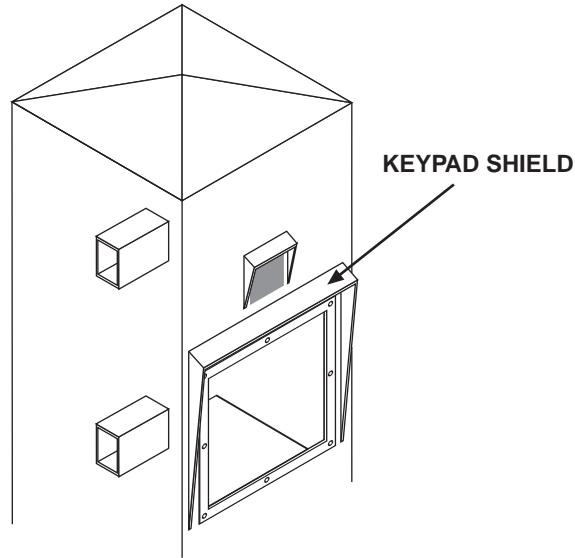
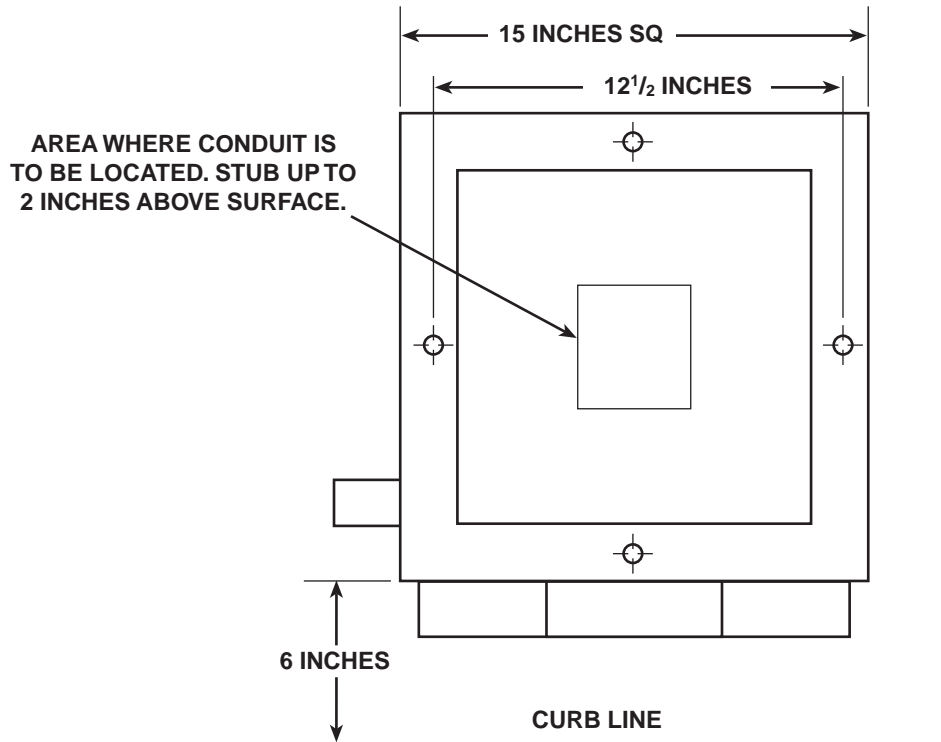
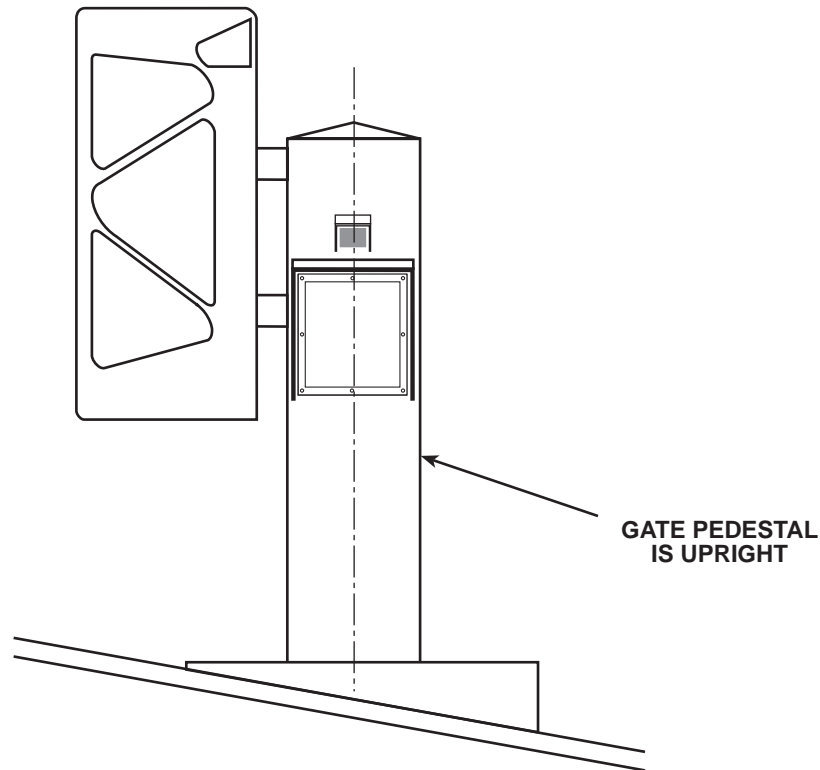

Figure 2-3. Pedestal keypad shield
Figure 2-4. Placement of gate pedestal
Figure 2-5. Mounting gate pedestal level in sloping lane
5. Place the unit in position on the curb. Verify that the keypad shield (see figure 2-3) is facing the curb, and that the pedestal is far enough back from the curb line (see figure 2-4) so as not to present a hazard to motorists. Also verify that the unit is mounted upright, not at an incline. If the lane slopes, place the unit onto a concrete pad to maintain a level surface (see figure 2-5).